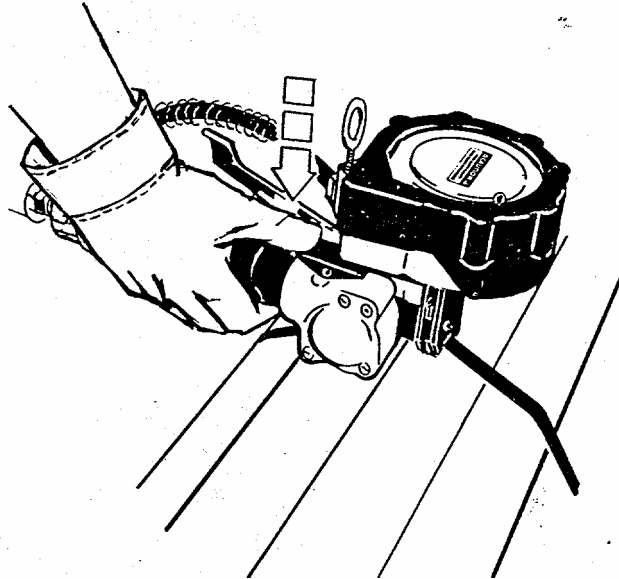

Figure 4
4. Using the thumb as shown, depress the sealer actuating valve until the sealing and cut-off cycle has been completed. Release sealer valve and turn off motor valve. Hold onto tool as it now will be free of strap. (See figure 4)